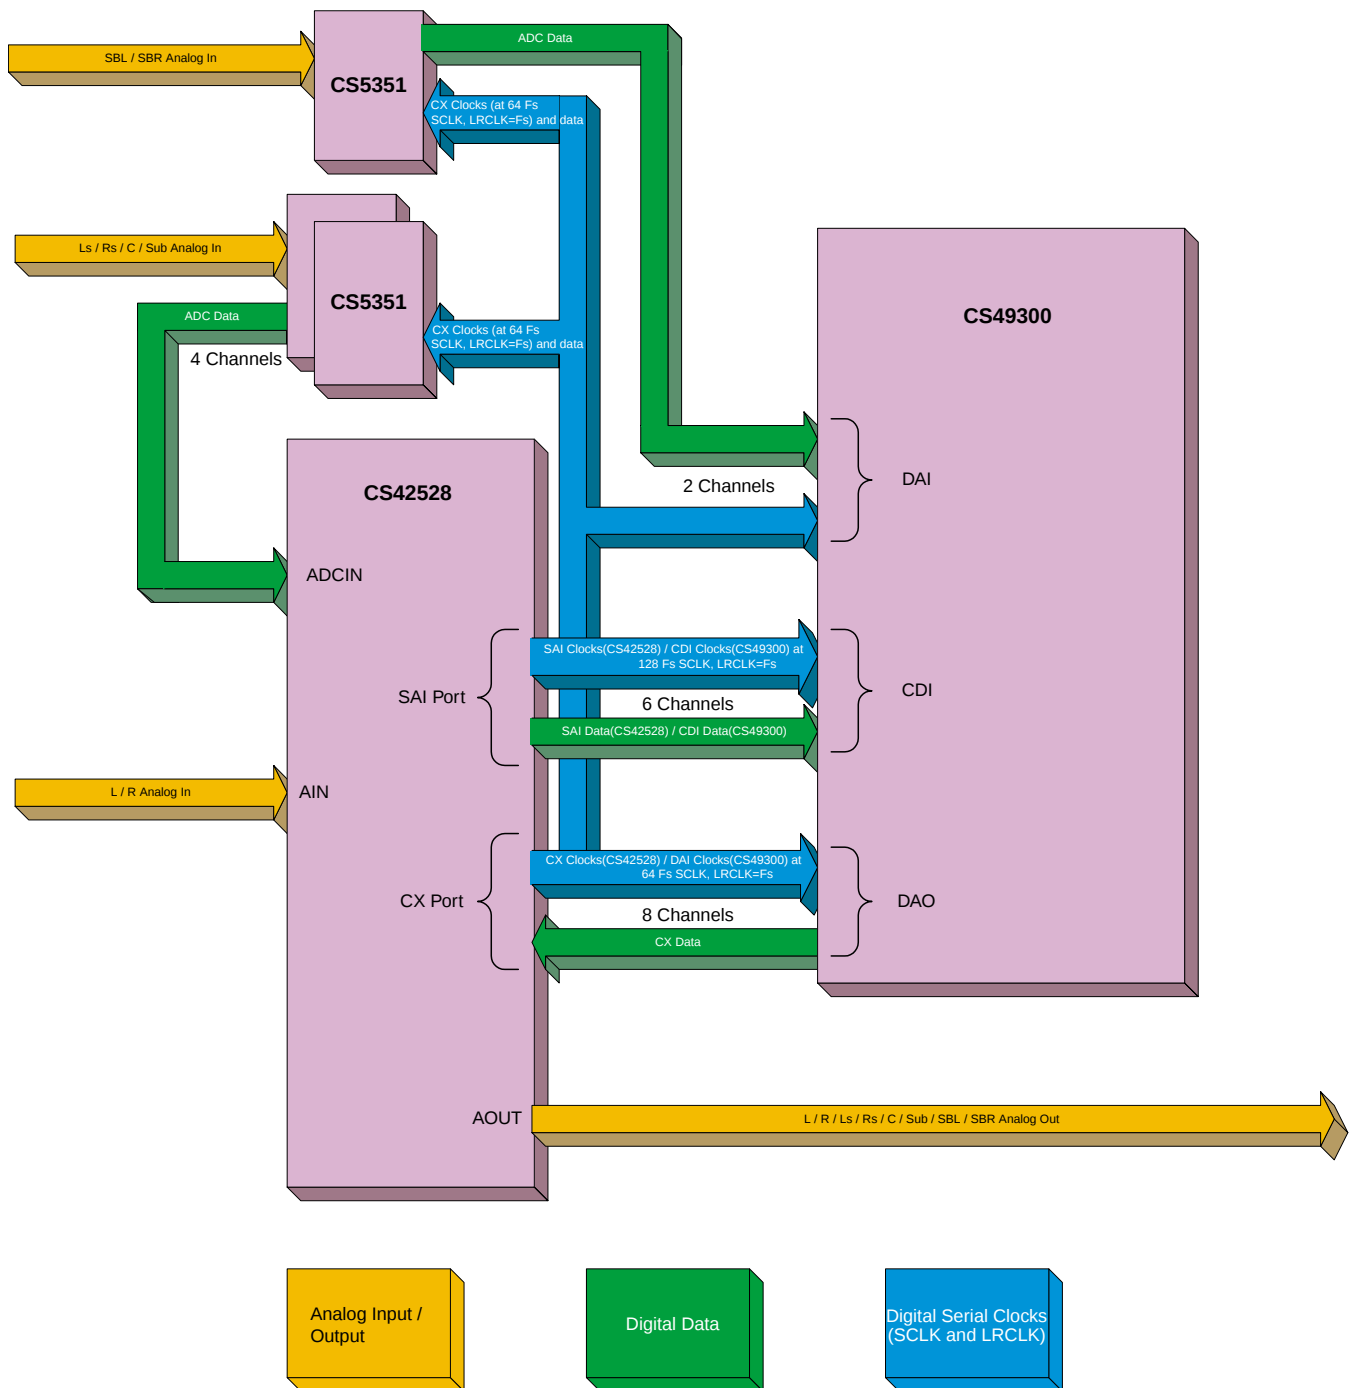

Figure 4. Data and Clock Connections for 8 Channel Analog Input and Output
A detailed diagram of the clock and data connections for analog input mode can be found in Figure 4, “Data and Clock Connections for 8 Channel Analog Input and Output,” on page 10. When Analog Input Mode is used, the CRD42528 will process up to 8 channels of analog input. The analog source is the analog I/O connectors on the UDSP MainBoard, which are routed directly to the CRD42528. The Left (L) and Right (R) analog inputs are connected, via input filters, to the CS42528’s analog input pins. When 6 channel (referred to as 5.1 channel) input is desired, two external CS5351 Analog to Digital Converters are used. These external ADCs receive the RMCK output from the CS42528. In this mode, RMCK will pass through the 12.288 MHz oscillator connected to OMCK. The external ADC serial ports are driven from the CS42528’s CX port clocks. The Left Surround (Ls), Right Surround (Rs), Center (C), and Subwoofer (Sub) inputs to the CRD42528 are connected to the external CS5351’s analog inputs, and the digital outputs from the two external CS5351s is then connected to the CS42528’s ADCIN1/2 pins. The CS42528 will incorporate all of the data from the external ADCs and it’s own analog input data onto a single line and send it to the DSP via the CS42528’s SAI port. In this way, the DSP gets the L, R, Ls, Rs, C, and Sub channels into it’s CDI port. For 7 or 8 channel (6.1 or 7.1 channel) operation, another external CS5351 is used to convert the Surround Back Left (SBL) and Surround Back Right (SBR) analog inputs. Please note that many appli-